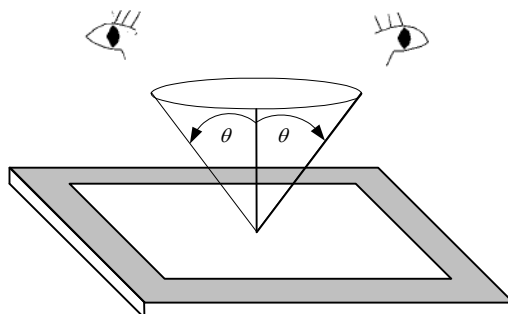

Fig 12.1
- The viewing zone is defined with angle θ shown in Fig. 12.1 The inspection should be performed within 45° when display is shut down. The inspection should be performed within 25° when display is power on.